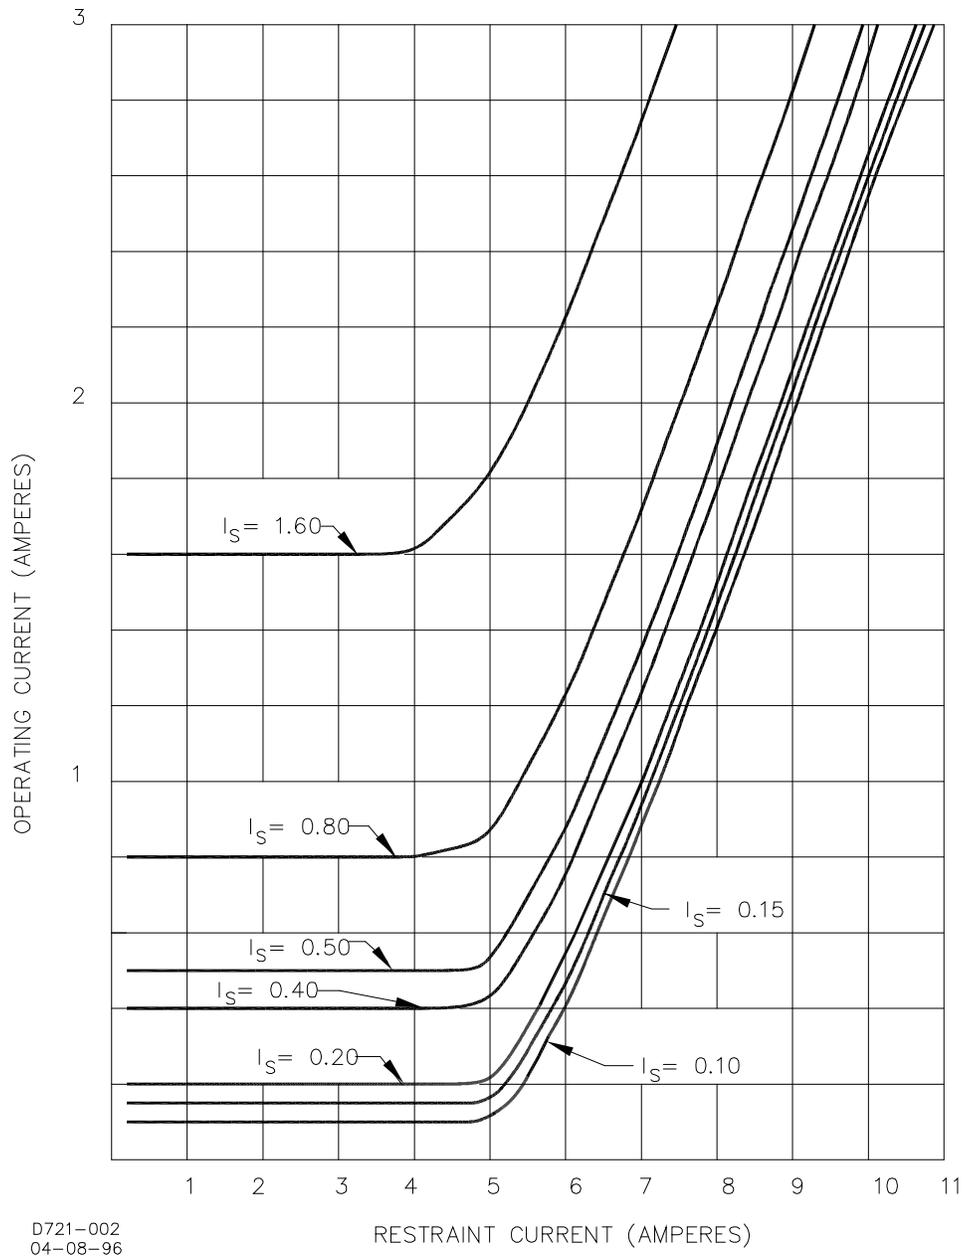

Figure 5-3. Operating Characteristics, Relay Style x1x-xxx-xxxx
7. Repeat steps 2 through 6 for the other sensitivity switch settings. If desired, a sufficient number of trip points may be taken to verify any or all of the performance curves shown in Figure 5-3.
See Figures 5-3 through 5-6 for the operating characteristic curves and trip response timing curve.
The following recommendations are provided for selecting the current sensitivity switch setting. Figures 5-3 and 5-4 show how this setting corresponds to the operating current pickup over the restraint current range.
During normal operation, the pickup on the flat part of the operating characteristic (see Figures 5-3 and 5-4) must exceed the difference in steady-state CT errors. The relay must also override the error differences in the presence of dc components developed by external faults or switching. Currents will be offset during external faults on generator applications, during motor starting, and during switching of shunt reactors.